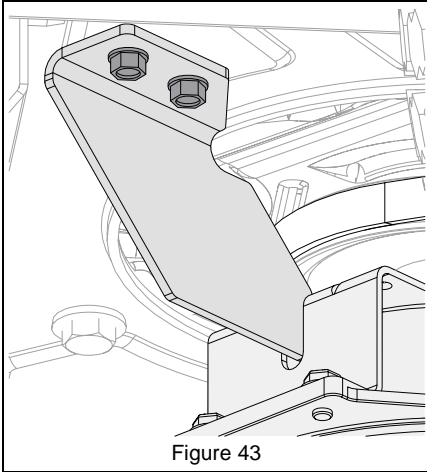

Figure 43
4. Reinstall clutch stop bracket and secure with original hardware. See Figure 43.